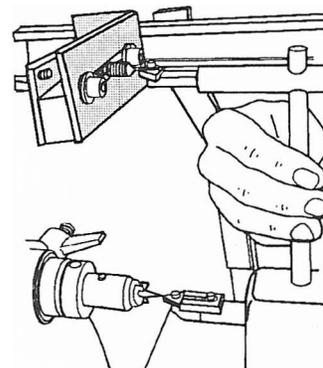

Fig. B-15
12. With the cutter already aligned with the lathe center, move the cutter and follower assembly so it is tip-to-tip with the lathe drive center, as illustrated in Fig. B-15. If needed, loosen the follower support knob (44) and move the support up or down until the top of the follower is level with the top of the template center. When aligned, tighten the knob.